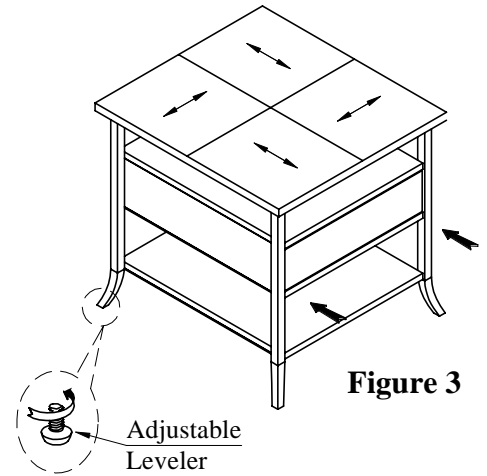

Figure 3
- STEP 5. Return the drawer into the base. Adjust the levelers at the bottom of the feet till the table is even. See Figure 3.